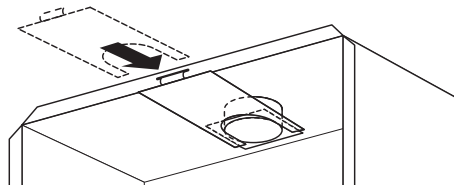

fig. 9
7. Slide the clamping plate with the lip upward under the vent connector. The flue connector and pipe or liner rests on the clamping plate. Make sure that the lip of the clamping plate goes in the slot on the front of the firebox (see fig. 9).